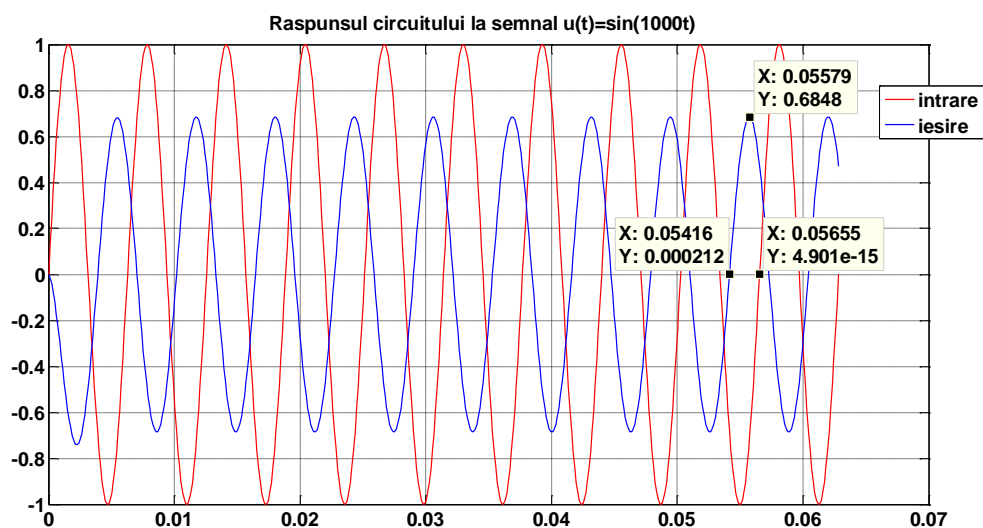

Figure 5 Matlab Simulation
- a. Measure (evaluate) the amplitude of the output signal in steady state A_{ss} (in figure 4, the output amplitude is 0.69 V),(in figure 5, the amplitude results more accurately, in 0.6848 V);
- b. The phase shift is measured in seconds underlining once again that the interest is over the steady state, φ_{ss} (in figure 4, 18.834ms-16.560ms=2.274ms),(in figure 5, 0.05655-0.05416=0.00239 seconds);